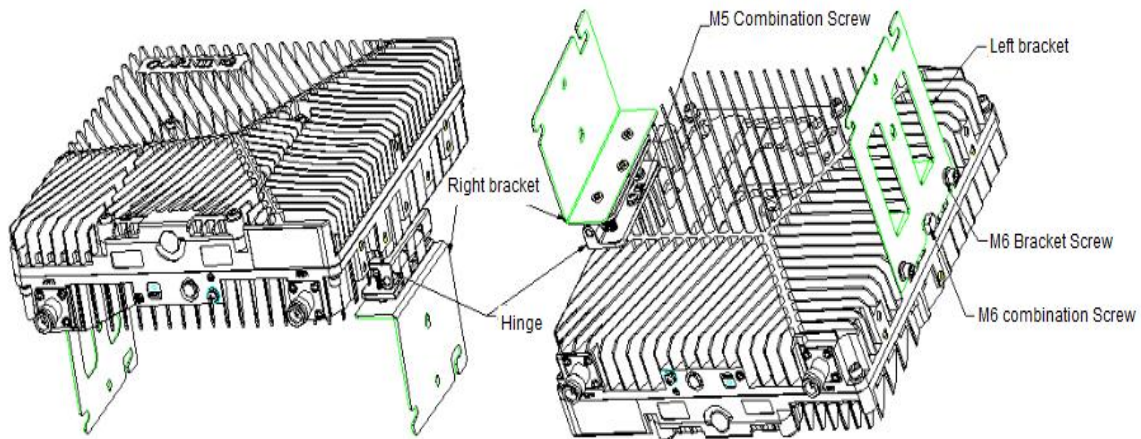

Figure 43 Installation of the left and right brackets and device bracket
- 2) Assembly of left bracket, right bracket and equipment, as shown in Figure 43.